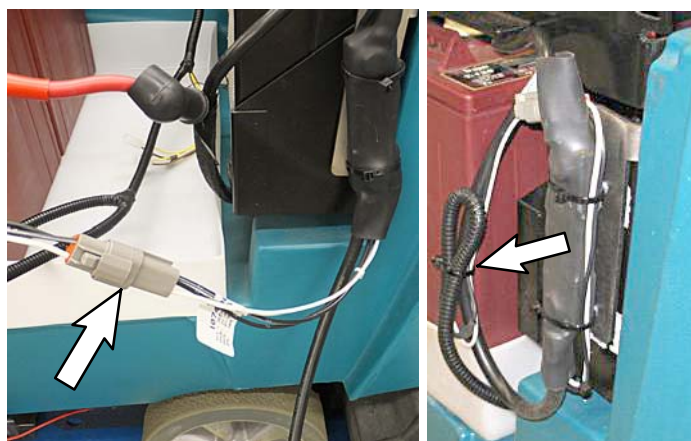

FIG. 32
18. Connect the telemetry harness connector into the shunt harness connector (FIG. 32). Secure the telemetry harness to the shunt assembly with cable-ties as shown.